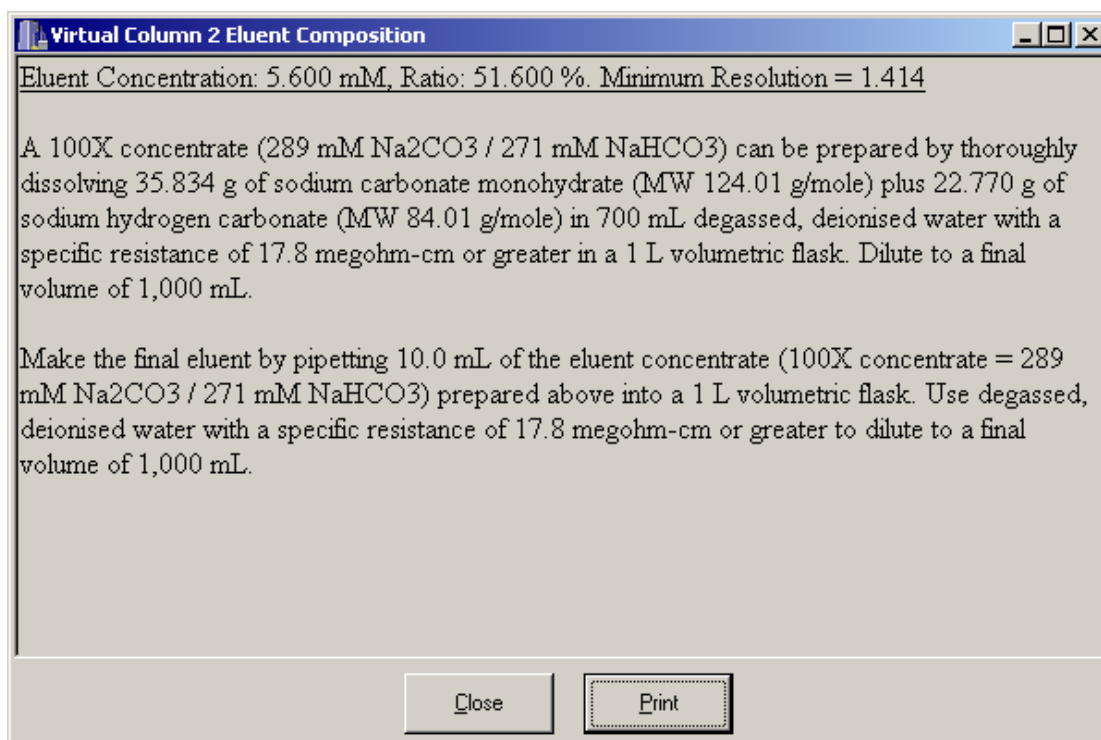

Figure 15. Virtual Column 2 Eluent Composition results window.
- Left click on the Next button to advance to the results page (Figure 15). A description of how to make up the eluent from Sodium Hydrogen Carbonate and Sodium Carbonate Monohydrate should be displayed.